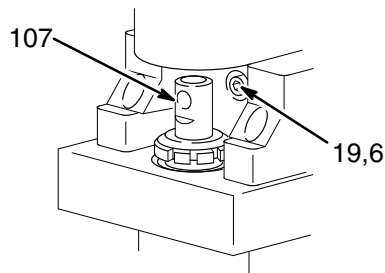

Fig. 27
2. Remove the pressure control (64). See page 29.
3. Turn the displacement pump rod (107) so the pin hole aligns with the bottom drive housing screw (19). See Fig. 27. Remove the three drive housing screws and lockwashers (19,6). Also see Fig. 28 on page 28.